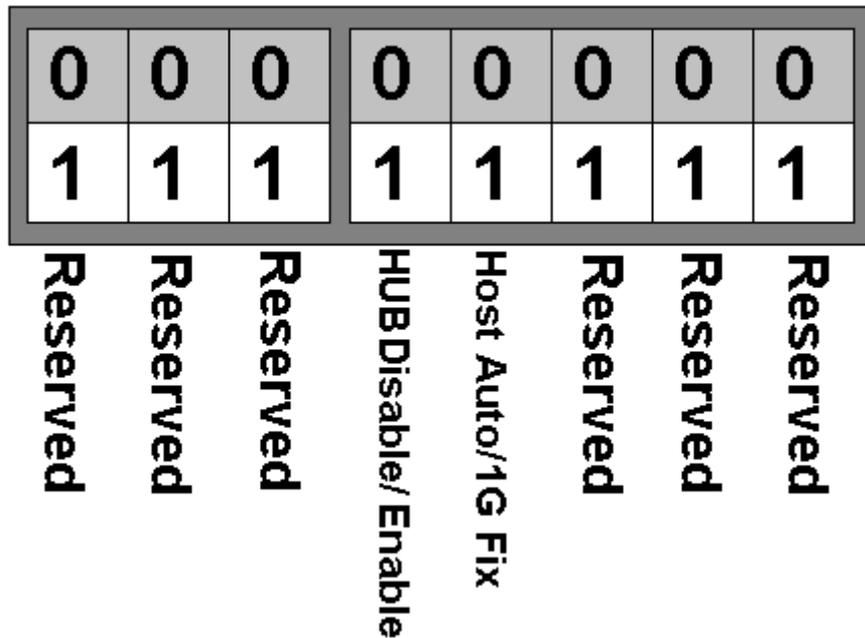

Figure 1-10: DIP Switch
- ◆ **IN (Host) ports:** The two (2) SFP modules (labeled **FC-CH0** and **FC-CH1**) at the bottom of the controller module are labeled as **IN** ports. These two (2) SFP connectors must be connected to an external FC-2G host computer. These SFP connectors can auto-negotiate the speed and determine whether the data transmission rate is 1Gbps or 2Gbps.
- ◆ **OUT (Expansion) ports:** The two (2) SFP modules (labeled **FC-CH0** and **FC-CH1**) at the top of the controller module are labeled as **OUT** ports. These two (2) SFP connectors can connect to another ES A16F RAID for subsystem expansion. The FC speed on these SFP modules is fixed at 2Gbps and cannot be auto-negotiated.
- ◆ **RS-232C (Audio Jack):** All controller modules come with two (2) RS-232C (audio jack) serial ports. The serial ports can be used for terminal emulation and uninterruptible power supply (UPS) support.
- ◆ **Drive:** All models come with sixteen (16) SATA drive channels that are connected to the back plane through connectors on the host I/O board. (*NOTE: Drive interfaces are not accessed through the controller module rear panel.*)
A DIP switch (see *Figure 1-10*), conveniently located on the rear panel next to the power switch on the right, enables the hub on the controller board and also fixes the speed of the host channel. The DIP switch has eight (8) switches, but only the fourth and fifth switches are used. Setting the DIP switch is fully discussed in **Chapter 4**.